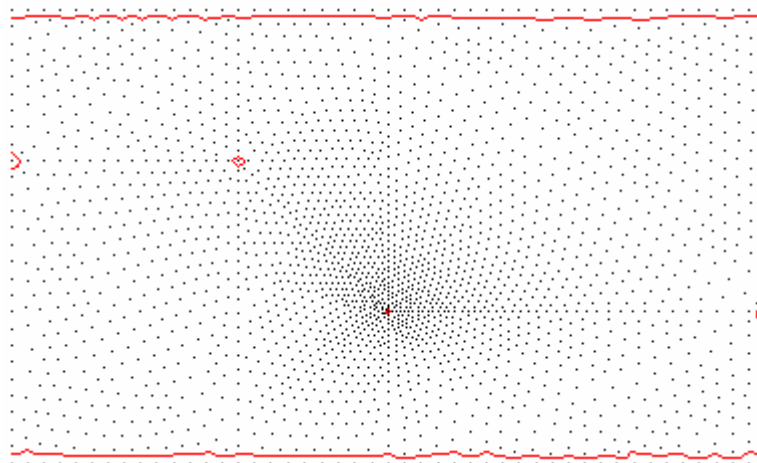

Figure 17: Contour map of label 1
5. The result is a map as in Figure 17: